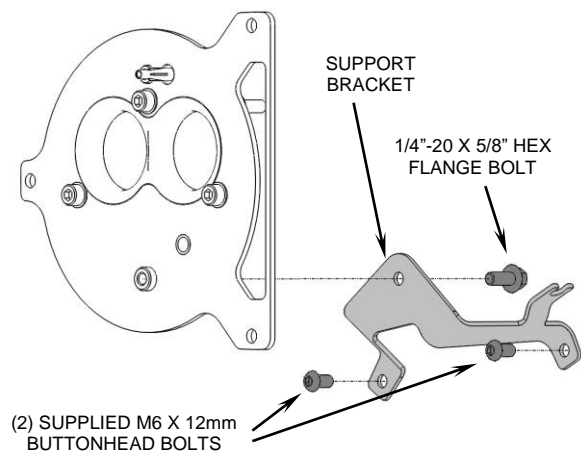

FIGURE 4
8. Install the supplied support bracket to the two threaded bosses near the base of the cylinders using the (2) supplied M6 x 12mm buttonhead bolts. Secure the support bracket to the mounting plate using the (1) supplied 1/4" hex flange bolt, and finger tighten. See Figure 4.
9. Fully tighten the (3) M6 x 25mm allen bolts, from Step 7, followed by the support bracket bolts, from Step 8.